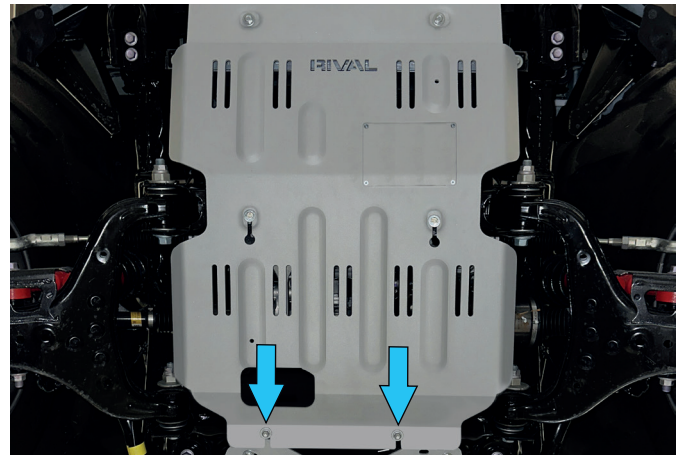

Fig. 7
7. Put the engine skid plate (item 1) on M8x25 bolts (item A) as shown in fig. 7.